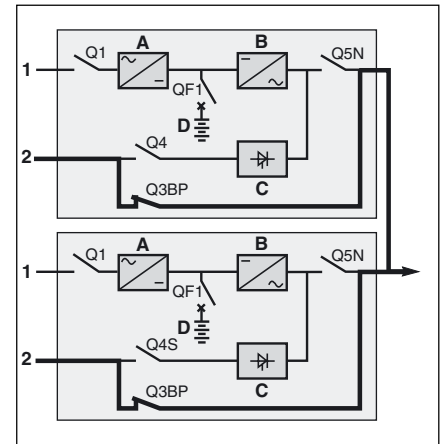

Fig. 28
► isolate all UPSs (see figure 28)